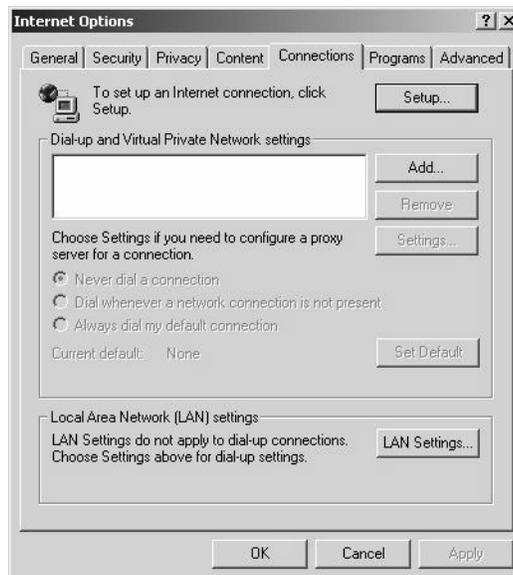

Figure 122: Selecting the Connections tab
4. Select the Connections tab as shown in Figure 122.